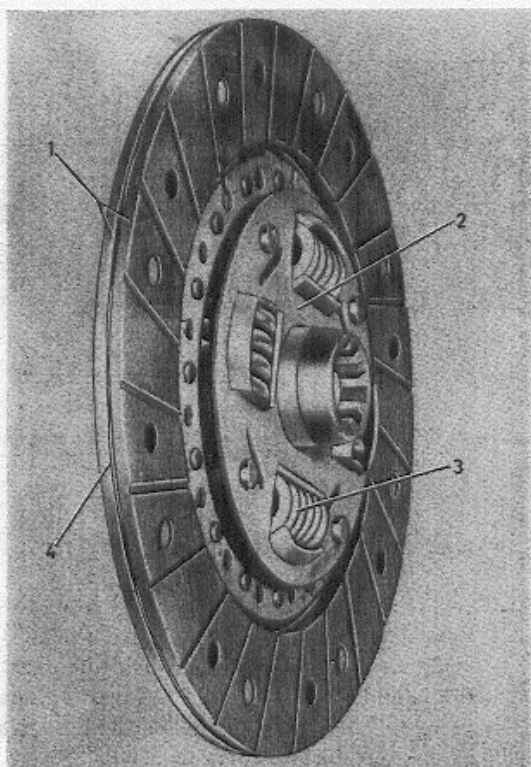

Fig. 8. Clutch plate.
*Note.* The rivets should be inserted from the lining side and riveted up from the opposite side using every other hole in the lining. After riveting the linings should be spaced from each other as determined by the indentations in the driven plate. See fig. 8. This is very important to ensure smooth engagement.